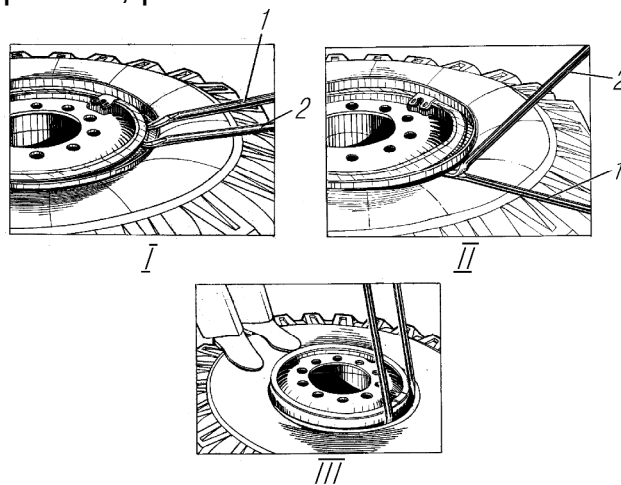

Fig. 50. Wheel Disassembling:
2. Remove the tire bead from the bead seat. For this purpose insert the flat end of the short tire iron into the dismantling slot between the bead and lock rings and press out the bead ring downwards, and insert the flat end of the second tire iron into the gap appeared (Fig. 50, I). Pressing both irons and rearranging them by turns around the circle at a distance of 50 – 100 mm from each other, upset the bead ring to some extent downwards together with the tire bead, and then, using the hook - like end of the large tire iron, completely remove (upset) the tire bead along its whole length from the bead seat.
- then, between it and the bead edge (bead ring) insert the hook - like end of the large tire iron so that the flat end of the short tire iron locates in its slot (it is permitted to use a hammer) and rest the second tire iron on the first one, having caught the bead ring by its hook - like end, pressing out both tire irons simultaneously (Fig. 50, II), upset the tire bead downwards;
- insert flat ends of the tire irons between the tire rim and bead in the valve area at a distance of 200 - 250 mm from each other (Fig. 50, III) and pressing them, move a part of the bead through the bead seat upwards (take it to the outside of the rim). In so doing the opposite side of the tire bead must be in the mounting groove of the rim;